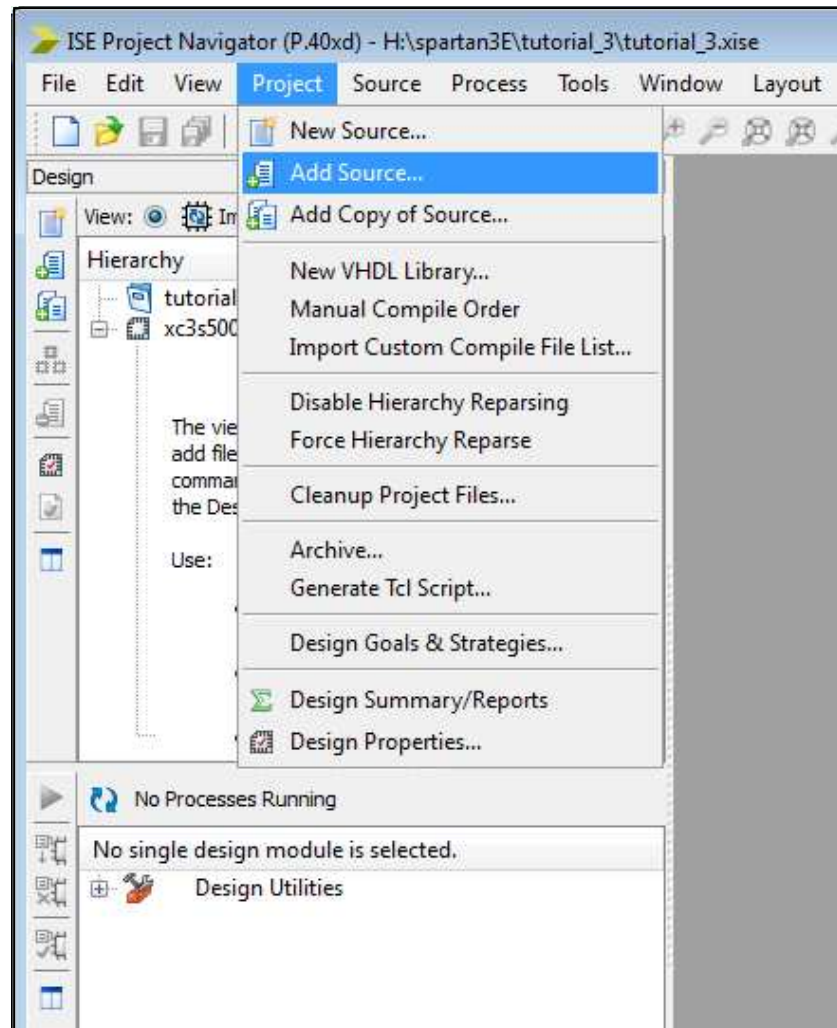

Figure 6.15: Adding a source file to the project.
1. Select **Project→Add Source** as shown in Figure 6.15. A window will appear allowing you to choose one or more files.